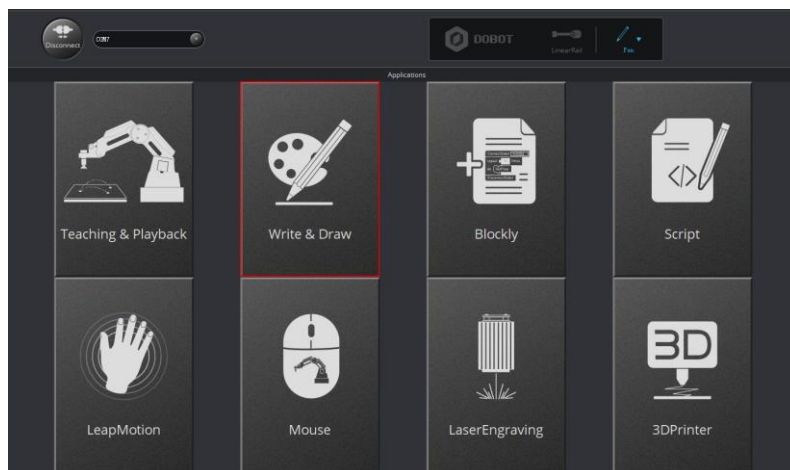

Figure 5.66 Click Write & Draw
- Step 3** Click **Write & Draw** module function, as shown in Figure 5.66.